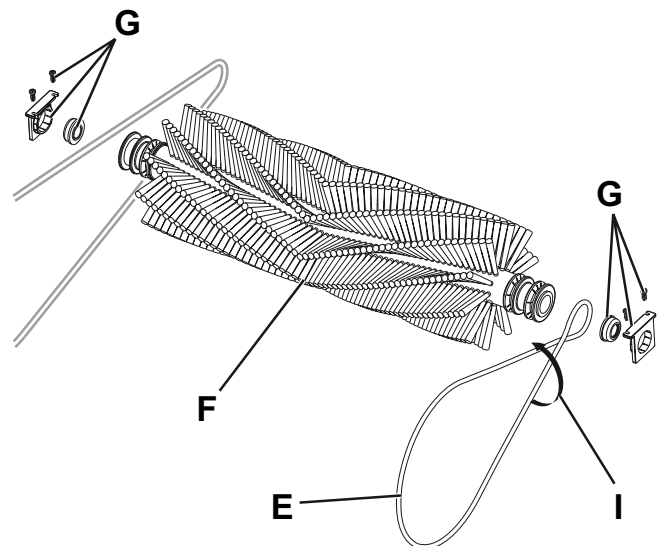

Figure 2
- Remove the driving belt (E, Fig. 2) from its housing on the main broom (F).
- Remove the main broom (F) and keep screws, supports and bearings (G) for reassembly.
- Install the short driving belt by crossing it as shown (I, Fig. 2).